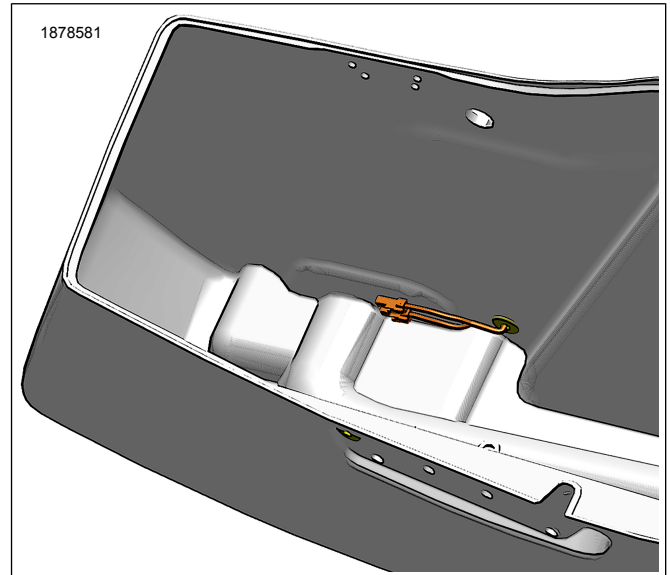

Figure 7. Jumper Harness Routing (if installed)
5. See Figure 7. If installing Marker Lamp Kit (Part No. 68000372) with Interior Lamp Kit (Part No. 68000425) in each saddlebag, separate purchase of two Rear Accessory Wire Harness jumpers (Part No. 69203366) is required.